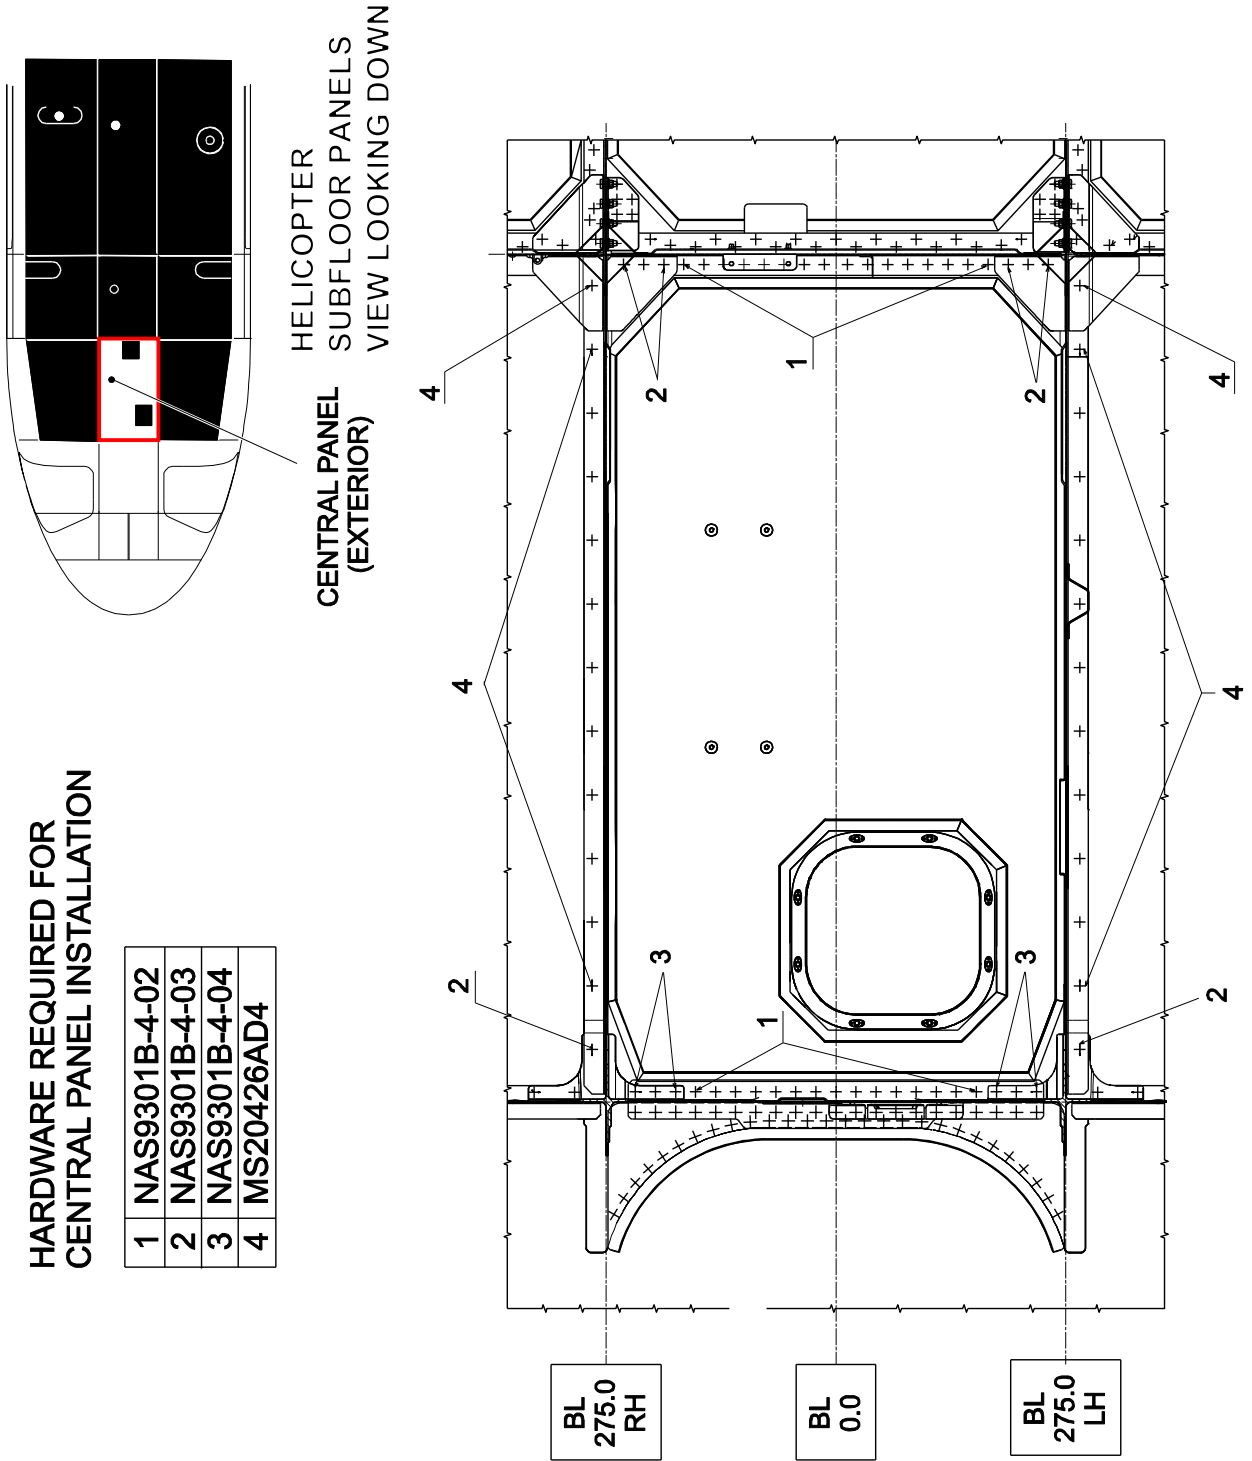

Figure 22
11. Install the central panel using hardware shown in figure 22.